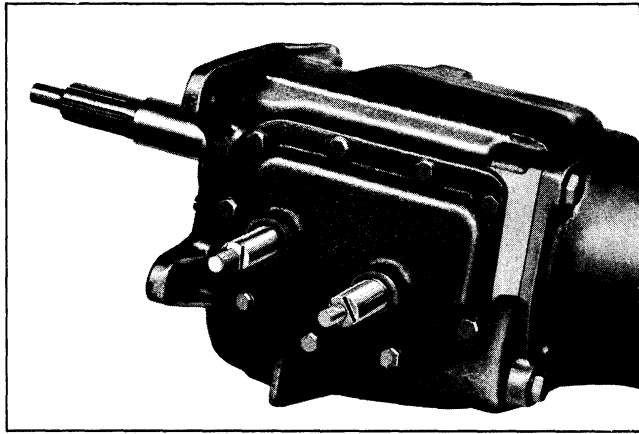

Fig. 7A-10 Transmission Side Cover
2. Remove side cover assembly and gasket (Fig. 7A-10).